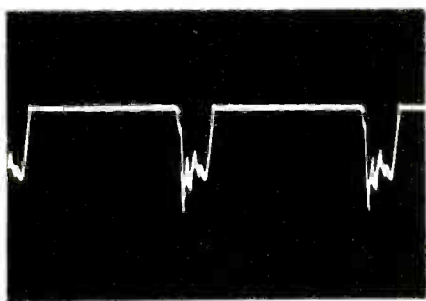

Fig. 6 Keying pulses for the AGC enter the module at pin 6 (100 VPP). They are reduced in amplitude to about 12 VPP at pin 5 of IC110.
- Make certain the negative-going AGC keying pulses are at pin 5, and have at least 12-volts PP of amplitude (Figure 6). The 100-VPP